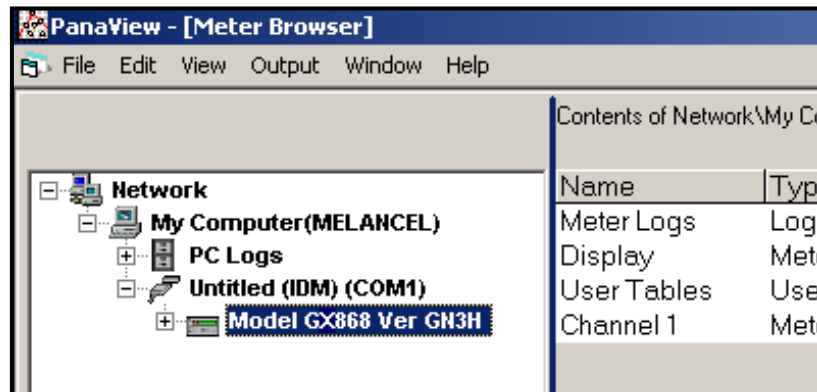

Figure 22: The Updated Network Tree
If the initialization is successful, the Meter Browser shows a listing similar to Figure 22 below.
1. Highlight the meter (as shown in Figure 22 on page 94).